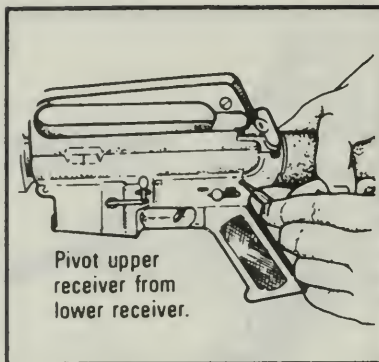

Figure 54. Pushing the takedown pin.
d. Push the takedown pin as far as it will go. Pivot the upper receiver from the lower receiver (Figure 54).